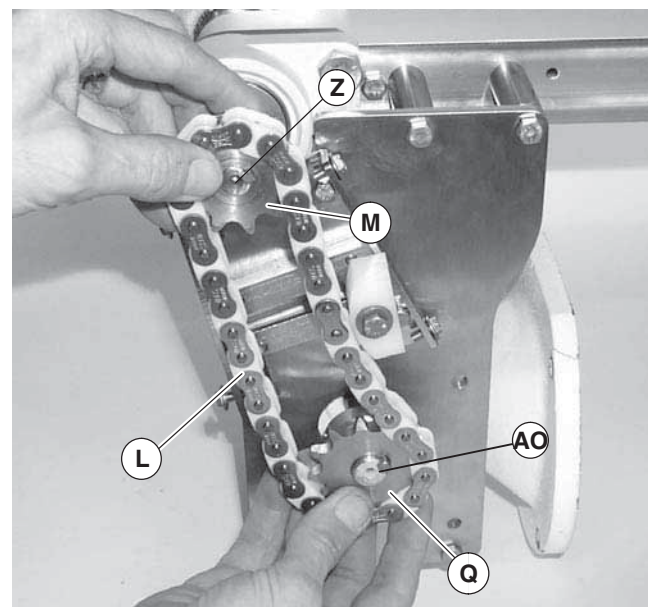

Figure 14
3. Install timing chain (Figure 14, item L) over sprockets (M and Q). Install timing chain and sprockets on conveyor input shaft (Z) and gear reducer output shaft (AO). Do not tighten sprocket set screws.